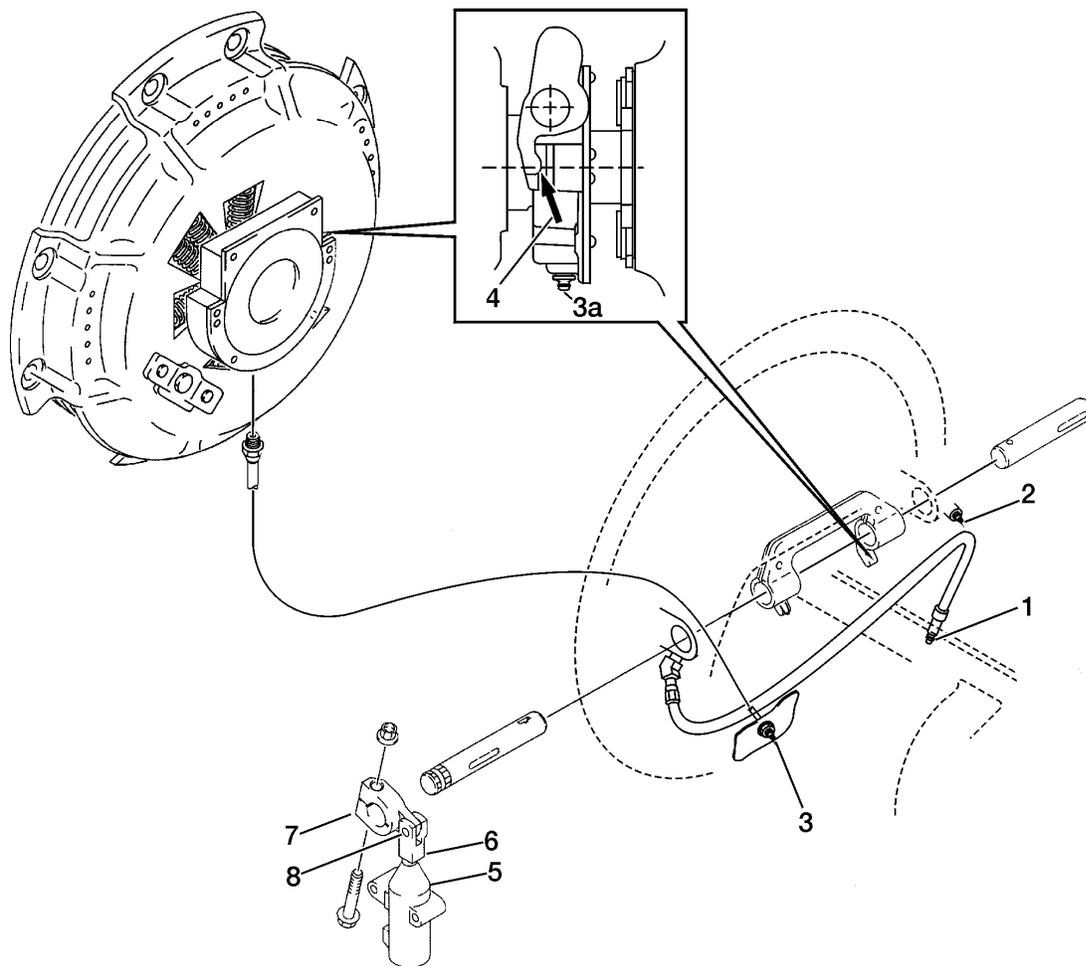

Fig. 1: Clutch Components
- 1 Grease the cross-shafts on left and right sides (1 and 2); see Fig. 1: Clutch Components, page 2. Depending on the option, the lubrication points may be lube fittings directly on the shaft bearings in the bell housing or a hose from the right side fitting pulled down to the lower part of the transmission on either the right or the left side.
- 2 Grease the release bearing. The lube fitting may be mounted in the lower inspection cover (3), connected to the bearing with a hose. The fitting can also be installed directly in the bearing (3a), in which case the inspection cover must be removed for servicing; see Fig. 1: Clutch Components, page 2.
- 3 Apply a small amount of grease on the wear pad surface (4) where the release fork fingers make contact. This is a newly introduced service point and will decrease the need for frequent clutch adjustment or repair.
- 4 Also check and service a vertically-mounted Rassey slave cylinder (5) every 6 months. For horizontally mounted cylinders, service according to previously released service information.
- Inspect the yoke (6), pin (8), and lever(7) for wear; see Fig. 1: Clutch Components, page 2. Replace as necessary.